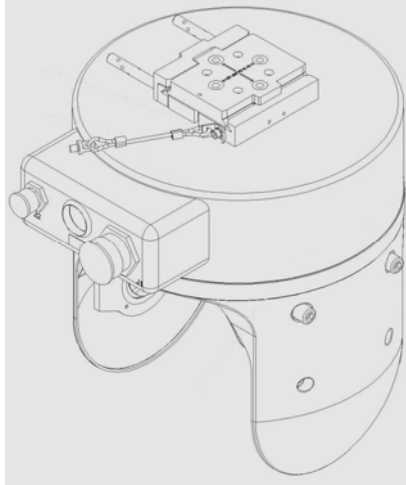

Figure 6 Gimbal Assembly
The Gimbal (Figure 6) serves the following functions: (1) it mechanically supports the Searchlight and attachment to the aircraft; (2) it provides the electrical connection and digital communication link between the Searchlight head and Junction Box; (3) it contains the azimuth and elevation torque motors, gears, and electronic equipment that enable the Searchlight to point in various directions.